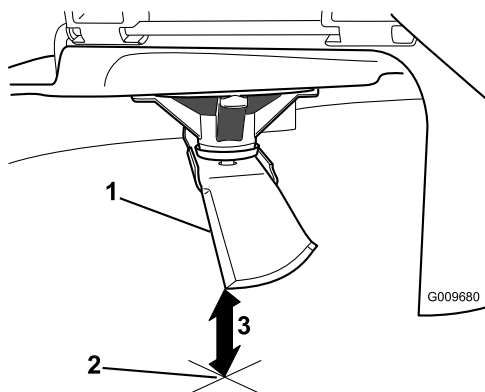

Figure 44
5. Measure from the tip of the blade to the flat surface (Figure 44).